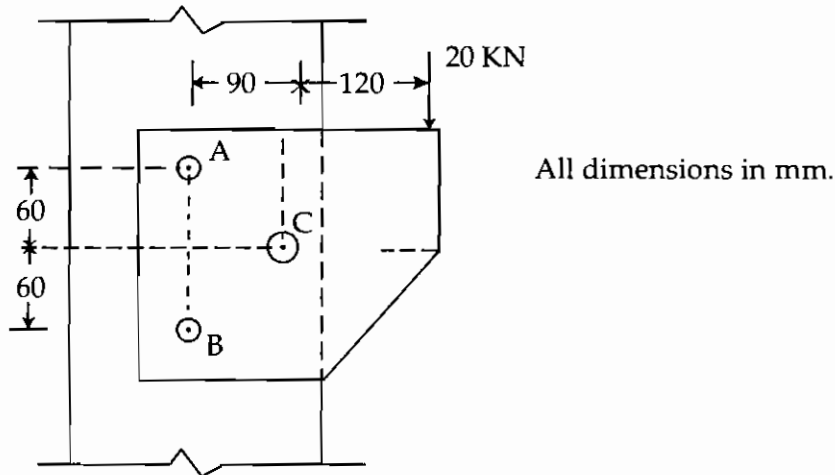

Figure 8 [ Q. No. 5 (A) ]
5. (A) Calculate the shearing stress in the rivets B and C for the connection shown in Figure 8. Rivets A and B are 14 mm in diameter, while rivet C has a diameter of 22 mm. 10